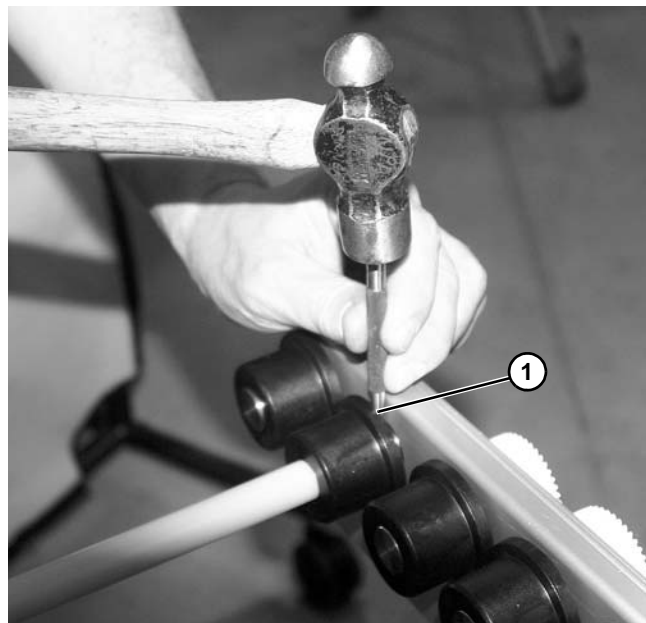

Figure 45
8. Using a hammer and pin punch, drive out pin (**Figure 45, item 1**) holding roller onto shaft.